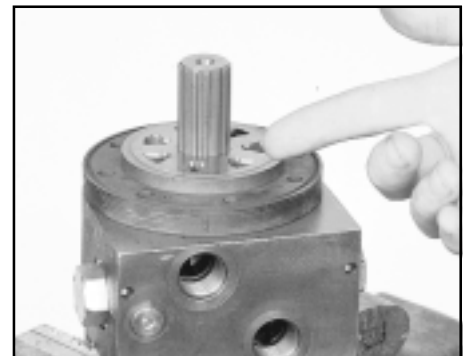

Figure A15
17. Place the valve plate, with the seven port window's sharp edge facing the commutator plate, over the splines of the shaft. The plate should be positioned one tooth off the opposite end valve plate when viewing valve plate port timing with respect to the commutator plate. SEE FIGURE A15.